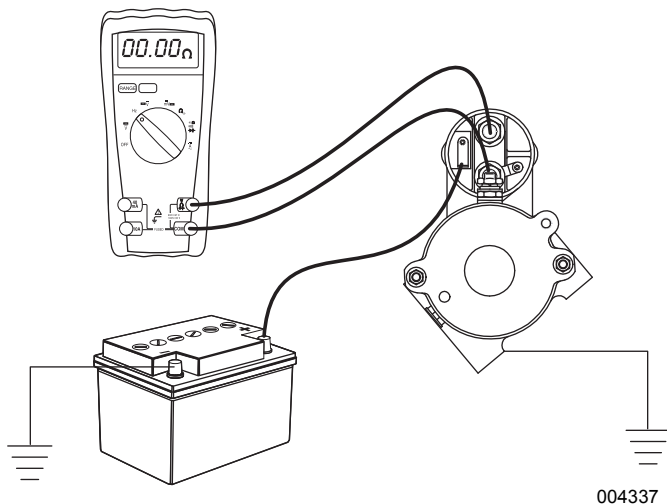

Figure 8-3. Test Starter Solenoid
7. See Figure 8-3. Attach one DMM test lead to each stud terminal on starter solenoid.